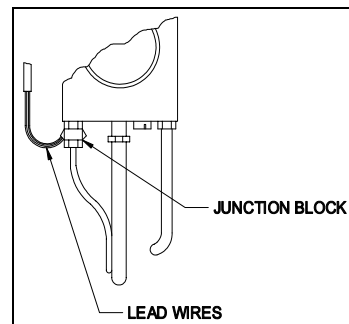

Figure 11
2. Thread the junction block into the thermocouple port and thermocouple into the bottom of the junction block. Connect lead wire from the junction block to the jacketed lead wires or wire enclosed in an accepted wiring enclosure. (See Figure 11)